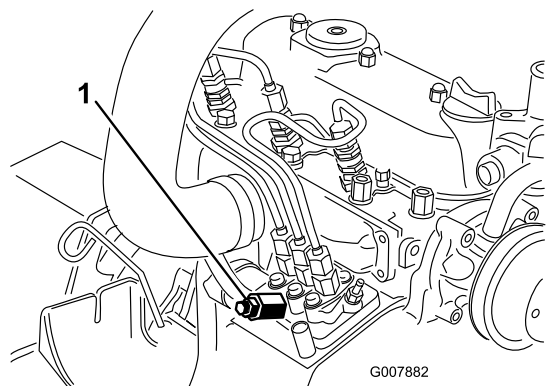

Figure 32
3. Place a rag under the air-bleed screw on the fuel-injection pump and open it (Figure 32).